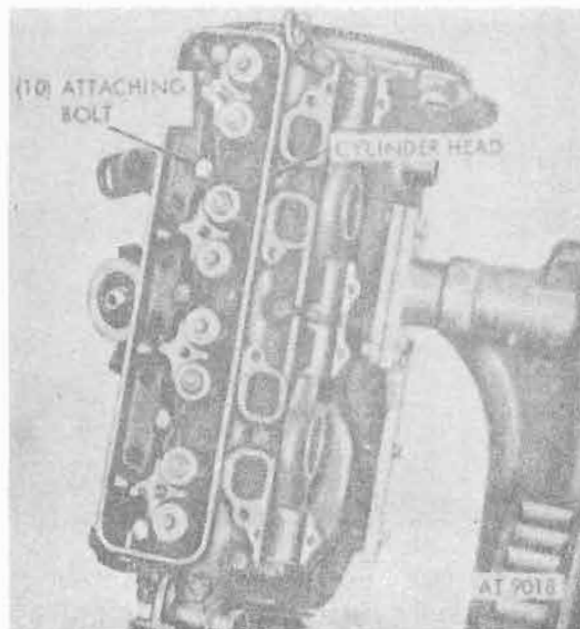

Figure 4-83. Cylinder head attaching bolts.
g. *Cylinder Head and Attaching Bolts.* Remove 10 hex-head bolts securing cylinder head to cylinder block. Lift cylinder head assembly from two locating dowels in cylinder block (fig. 4-83).